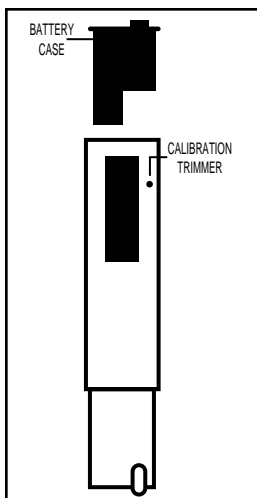

Figure 4
6. If necessary, adjust the calibration. Place a small screwdriver into the hole in the back of the Pocket Pal. See Figure 4. Then, turn the screwdriver until you obtain a pH reading of 7.0.
2. Replace the 4 batteries (positive terminals up) with EverReady E675E, Duracell RM675 or equivalent. See Figures 4 and 5.